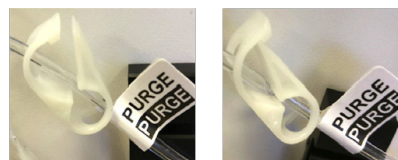

Figure 72. During step 2, the purge valve should be opened (left) and then close (right).
- 2. Purge Valve:** Opening the purge valve alters the pressure within the cartridge, which may dislodge a clog that was not previously cleared by repriming. Open the “Chip Alignment” window and move the live chip image to the sorting junction. Gently open the purge valve (Fig. 72). If the clog remains, proceed to close and open the purge valve two additional times.